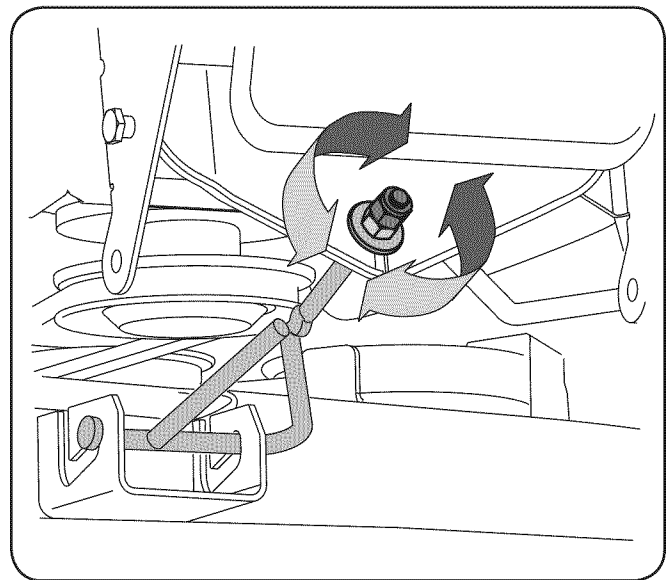

Figure 6-5
1. Loosen (thread outward) the hex lock nut on the end of the deck hanger rod. See Fig. 6-5.
- 2b. To *lower* the front of the deck, loosen (thread outward) the hex nut, away from the front hanger bracket. See Fig. 6-5.